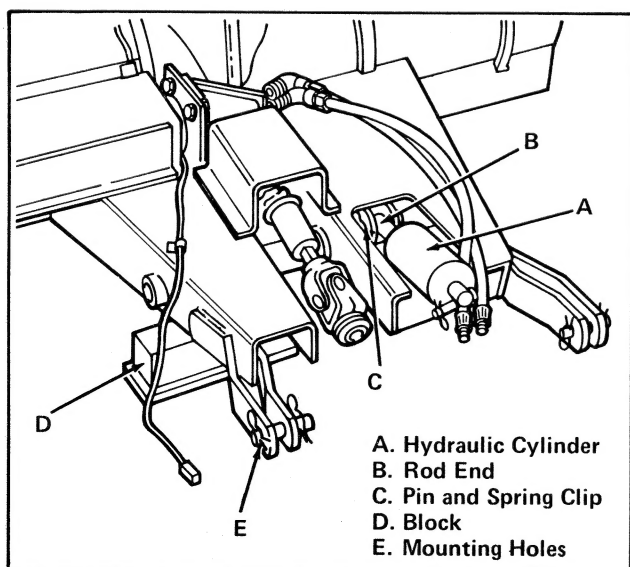

Figure 5. Prepare Snow Thrower for Mounting
7. Attach hydraulic cylinder (item A, figure 5) on snow thrower. Install rod end (item B) of hydraulic cylinder to snow thrower frame with pin and spring clips (item C), with hoses on the bottom.
7. Place block (item D, figure 5) under frame of snow thrower.